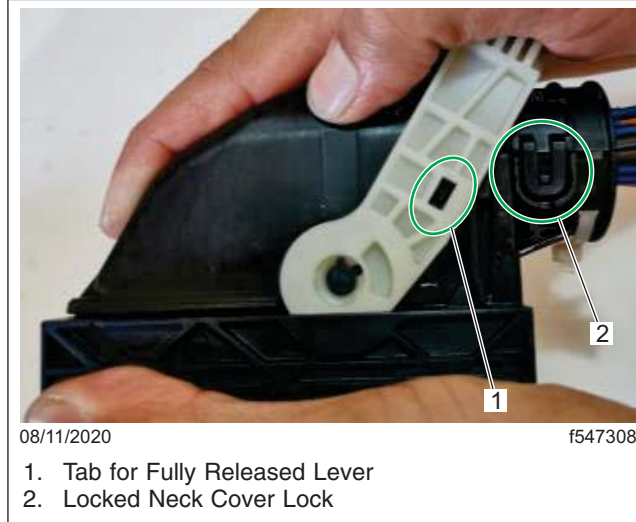

Fig. 9, Chassis Harness Connector Lever in Fully Released Position
5. Move the chassis harness connector lever into the fully released position. The unlocked lever will fit over a plastic tab on the plug body. See Fig. 9.